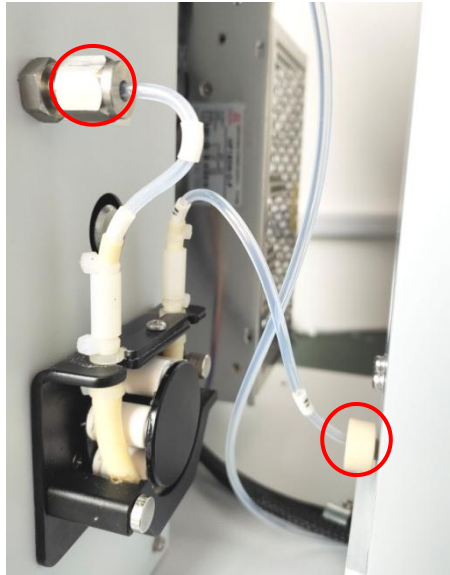

Fig.6.40
1) Open the left cover of instrument. Unscrew the two joints from both ends of the drain peristaltic pump tube (Fig.6.40).